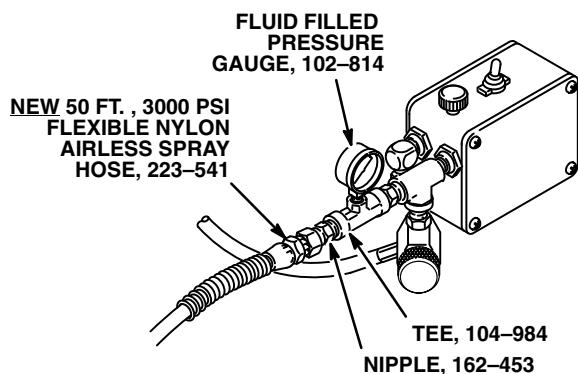

Fig 11
- Items in Fig 11
2. Plumb the pressure control with additional parts as shown in Fig 11. Connect the needle valve to the open end of the hose.